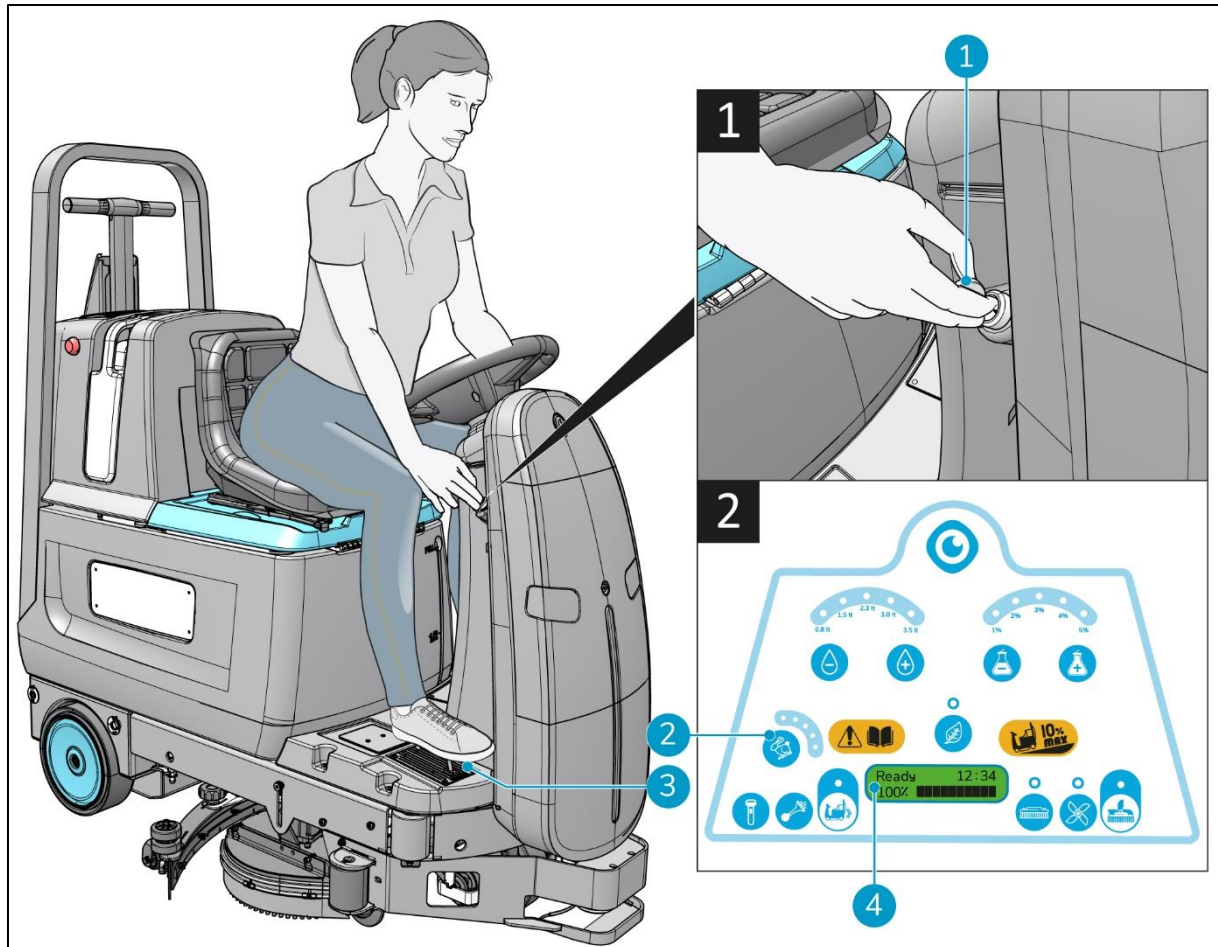

Figure 24
3. Check the display for the start-up sequence to finish, it will show "Ready" (Figure 24, pos 4).
5. Choose the desired driving speed: 1 (up to 2.5 km/h), 2 to 5 (2.5 to 4.5 km /h) (Figure 24, pos 2).
6. Gently push the accelerator pedal down (Figure 24, pos 3) to move forward.